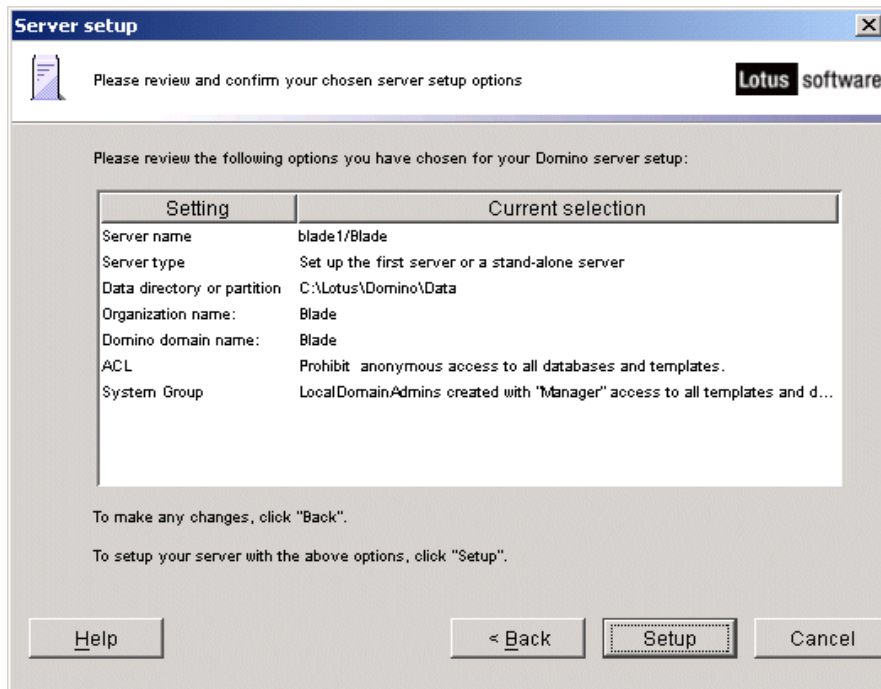

Figure 4-8 Server setup settings
15. Click **Next** after making your selection. You will see a window similar to Figure 4-8 on page 44.